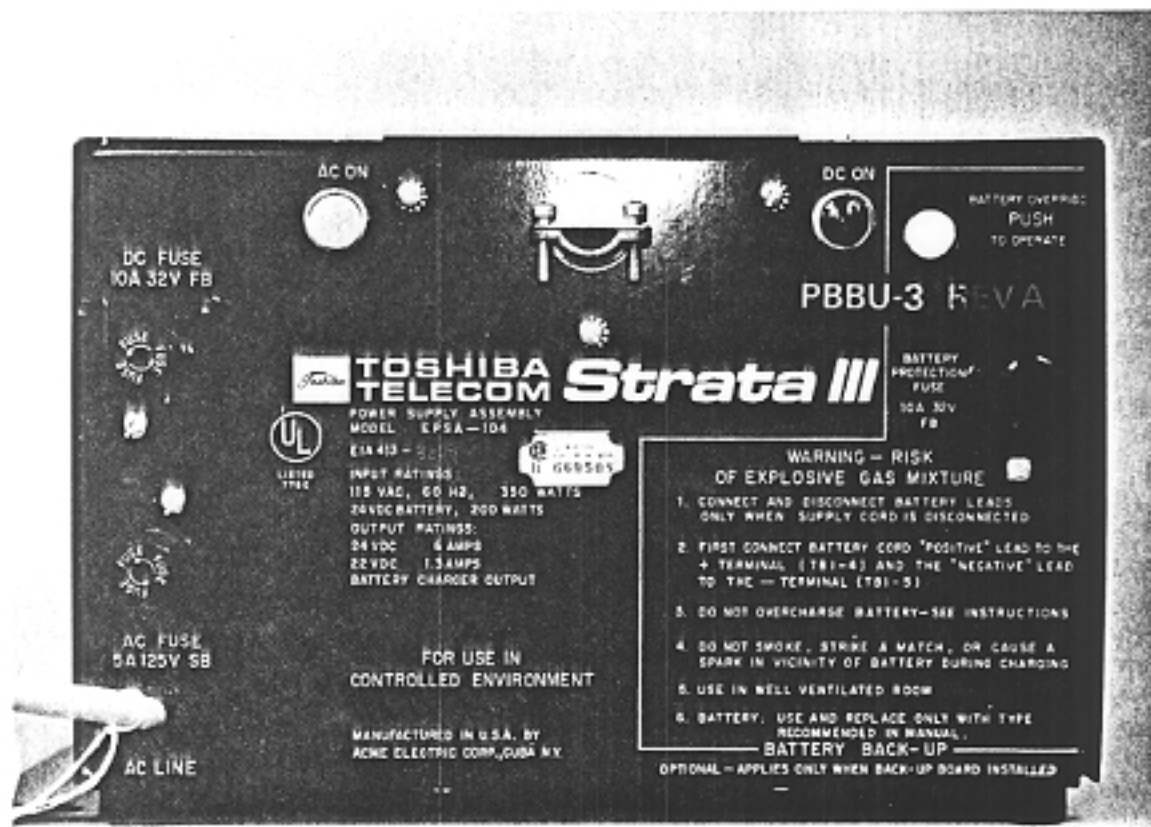

FIGURE 8
02.32 A "PBBU-3 REV A" decal must be placed on the control panel of the EPSA. Remove the decal from the kit, peel the backing off, and place it on the control panel (Figure 8).